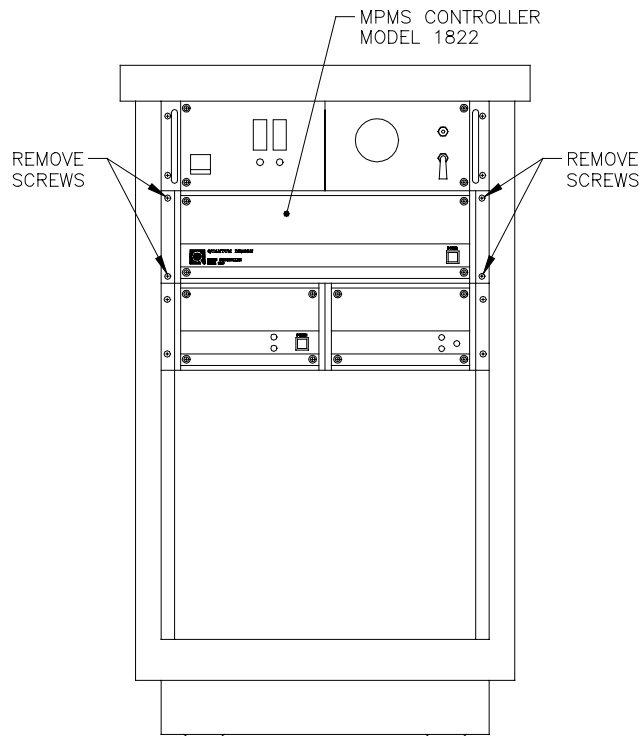

Figure 3. The screws that hold the Model 1822 into the console cabinet.
2. Unscrew the four Phillips-head screws from the front panel ears of the 1822 to remove the 1822 from the console cabinet (**Figure 3**). The 1822 is heavy. Gently set it on a workbench or counter top.